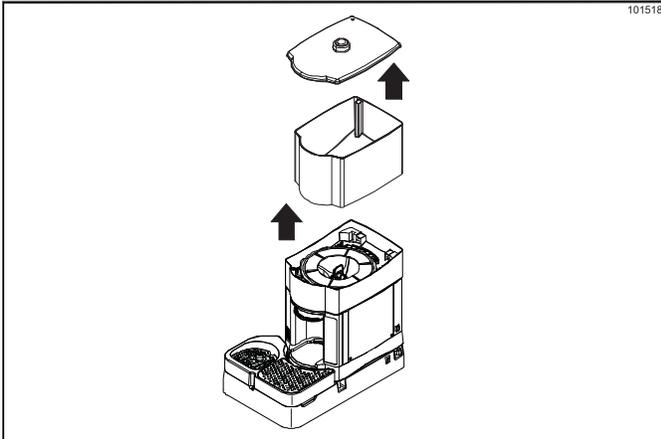

Figure 6-12
10. Remove the ice hopper and cover. Take them to the three compartment sink for cleaning and sanitizing. (See Figure 6-12.)